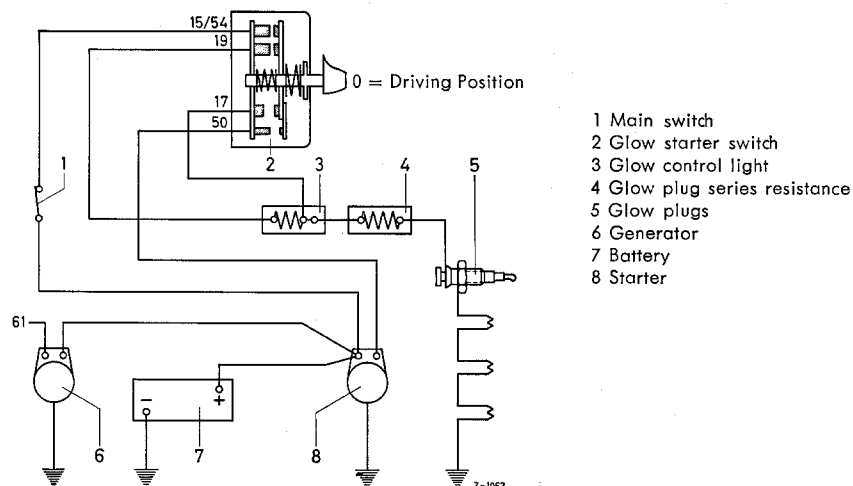

Figure 15-00/5
The glow plugs receive their power from the 12-volt battery via the glow starter switch. The glow plugs are connected in series with the glow control light (3) and the additional glow plug series resistance (4) (see Fig. 15-00/5) in accordance with the rated voltage of the glow plugs, so that the sum of all individual rated voltages, including loss of voltage in the lines, corresponds to the rated voltage of the battery.
During the starting the glow control light is shorted, so that the heat output of the glow plugs does not drop too much during the decreasing battery voltage (see Figure 15-00/5 and also Job No. 15-33, Description of the four Switch Positions, item d).